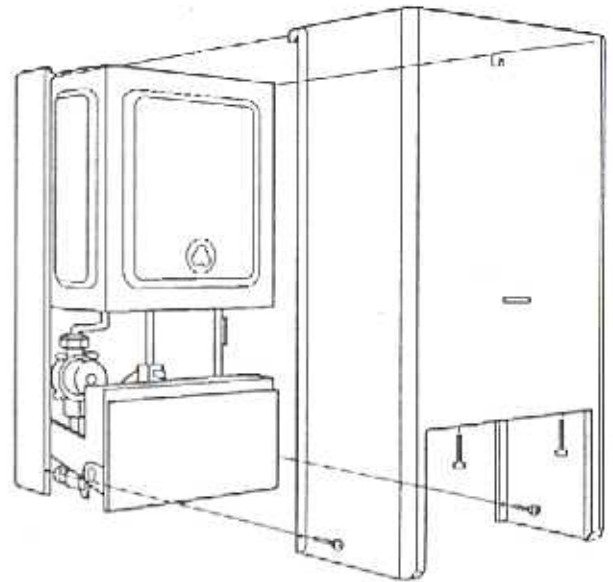

Fig.24
6.14 Refixing the Front Cover (fig. 24)
Slide the casing downwards to fully engage the hooks and to align the bottom fixing holes. Replace the four case retaining screws. (fig.24)